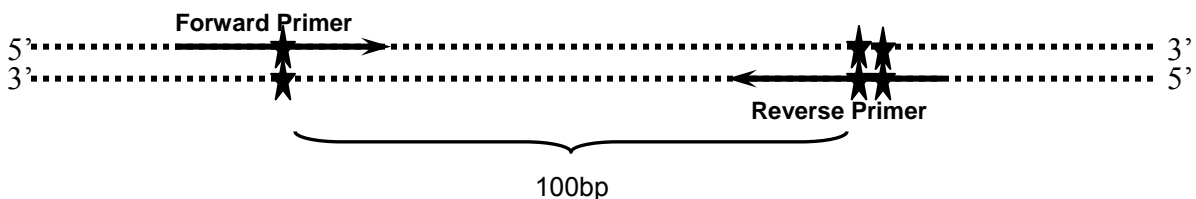

Fig 2. Location and Direction of Forward and Reverse Primers
- ◆ Each primer contains one of two mutation sequences respectively. Forward Primer contains the upstream mutation, and the Reverse Primer contains the downstream mutation (see Example 1 and Fig 2).
- ◆ Forward Primer and Reverse Primer have to be chosen from two different chains of the dsDNA. The Forward Primer is chosen from the sense strand and complementary to the anti-sense strand, whereas the Reverse Primer is chosen from anti-sense strand and complementary to the sense strand (see Example 1 and Fig 2).